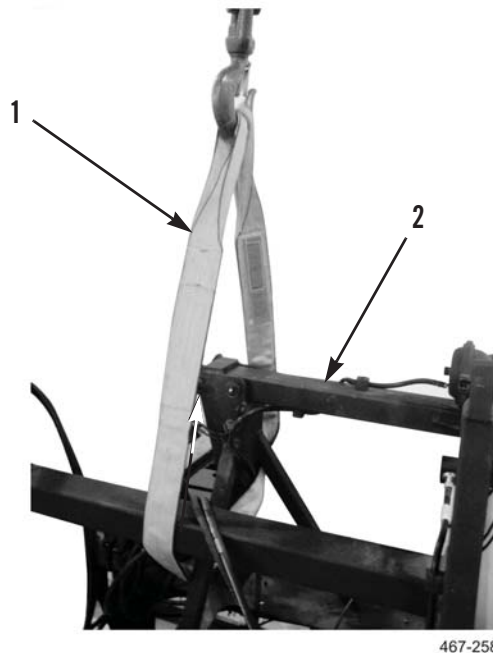

Figure 24. Sling on Stowage Assembly
8. Attach sling (Figure 24, Item 1) and lifting device to stowage assembly (Figure 24, Item 2).